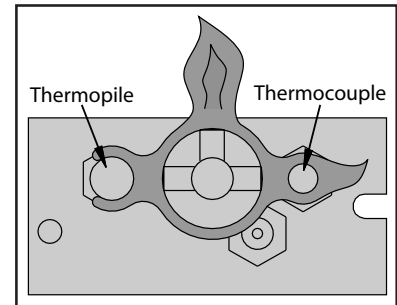
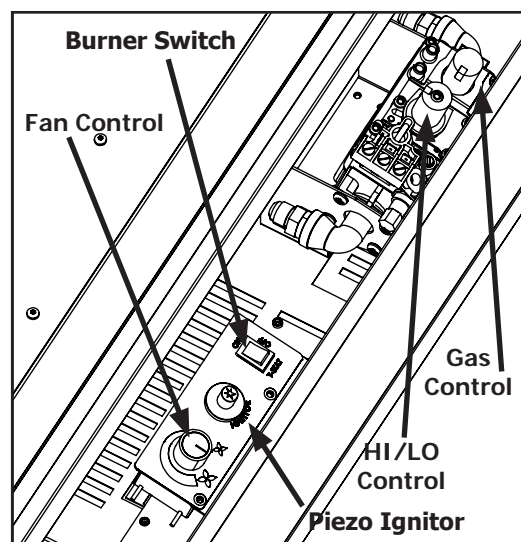

Figure 3: Pilot Flame
Figure 5: Control Panel
1. Turn off the gas to the fireplace. **If not recently done, remove the glass and let the unit air out for at least five (5) minutes to clear out any gas.** Turn on gas to the heater.
2. Be sure there is no burner media in the protected pilot area of the burner pan. Start the pilot by pressing the gas control knob (Figure 5) and turning it to PILOT. Turn the gas control knob to pilot and push in, press the piezo ignitor several times until the pilot light starts. Hold the gas control knob in for at least 30 seconds once lit. Check that the pilot has fully engulfed the thermocouple assembly (see Figure 3). The pilot should now stay lit on its own.
Flip switch to OFF to turn off burners, turn the gas control knob to OFF to extinguish the pilot flame. Keep the pilot flame **OFF** when not in use. If the fireplace is to be serviced, turn the gas shut off valve to OFF (DO NOT FORCE IT) and disconnect all electrical power sources. See Figure 5 for control panel layout.